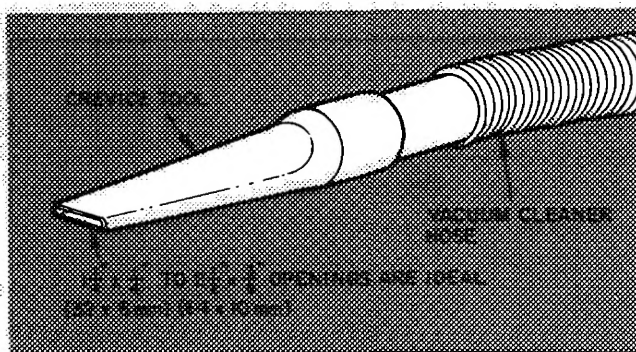

Fig. 27 — Crevice Cleaning Tool
3. Clean coil using vacuum cleaner and its crevice tool (see Fig. 27). Work crevice tool *vertically* making sure tool only touches dirt on fins. To prevent fin removal, do not "scrub" fins with tool or move tool horizontally.